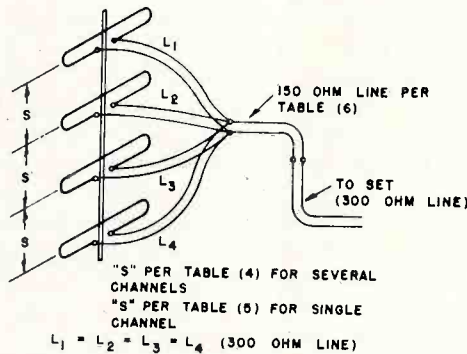

Fig. 5. Double Stacking 300 Ohm Antennas.
**Matching Double Stacked In-Line or Conical Antennas.** Two procedures are suggested. Equal lengths of 300 ohm line from each of the four antennas may be joined together as in Fig. 5.